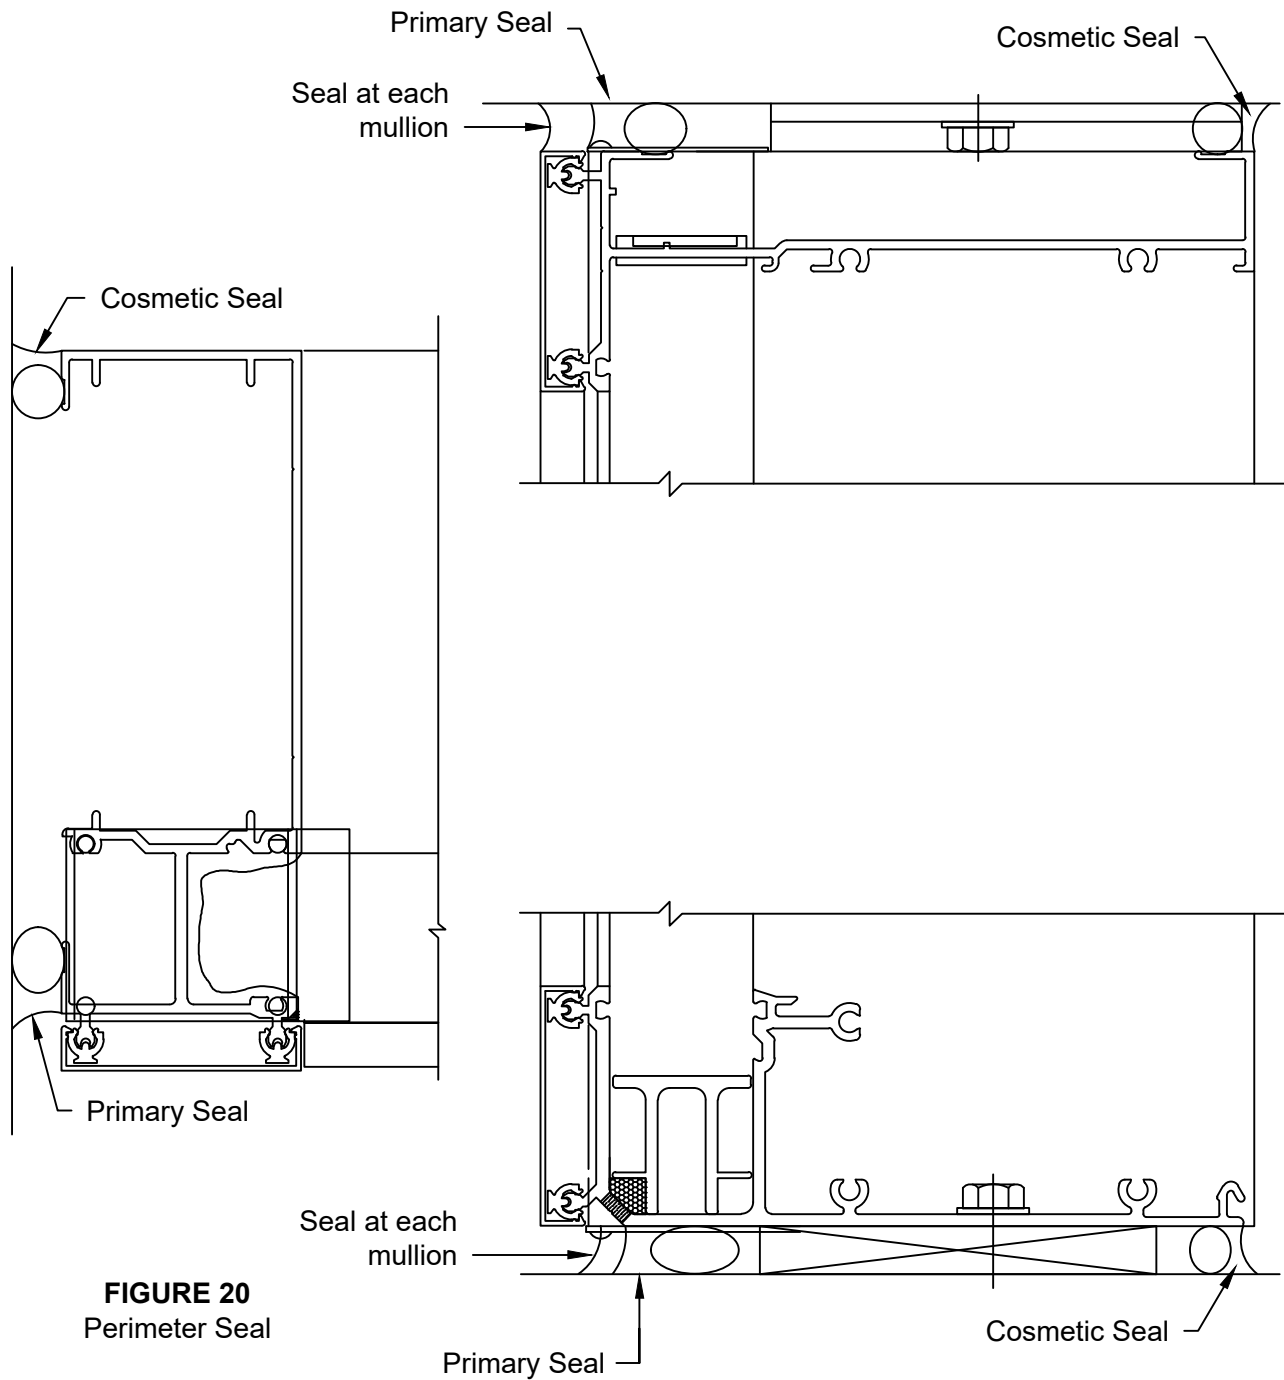

FIGURE 20
- 3.12 When all framing members are installed, apply perimeter seal. **SEE FIGURE 20.**